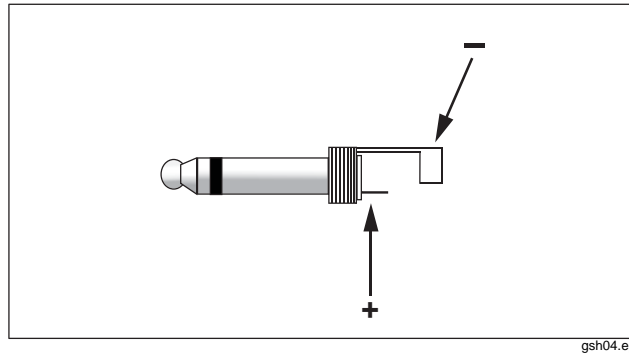

Figure 2. External Trigger Connector Polarity
Use the External Trigger Input Connector for outside trigger sources. When the Connector is plugged into the Product (see Figure 1, item ④) the Product displays **External Trigger**. Table 3 shows what options are available when an external trigger is used. For Connector polarity information, see Figure 2.